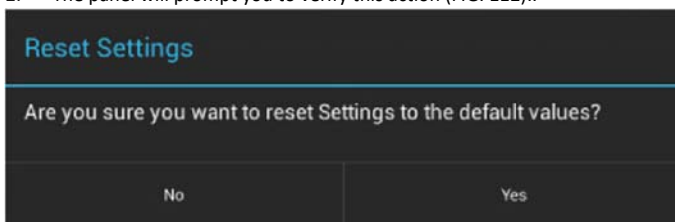

FIG. 112 Reset Settings prompt window
2. The panel will prompt you to verify this action (FIG. 112):.